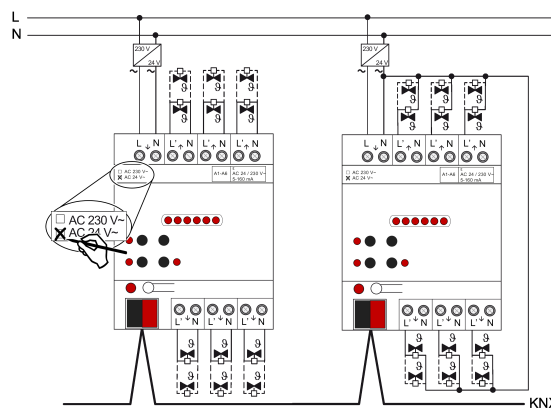

Figure 4: Connection for actuators AC 24 V
- Connect AC 24 V valve drives according to the connection diagram (see figure 4). It is possible to connect the actuators individually and directly with the terminals of the outputs of the heating actuator (left-hand connection example) or, alternatively, using a shared conductor (right-hand connection example).